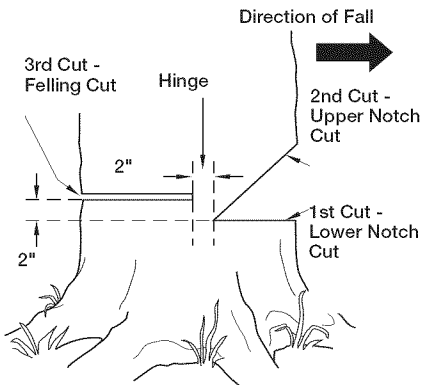

Figure 12 - Felling A Tree
A properly placed felling notch will determine direction tree will fall. Place felling notch on side of tree in direction you want tree to fall (see Figure 12). Follow directions below to create a felling notch.
1. Make lower notch cut as close to ground as possible. Hold saw so guide bar is horizontal. Cut 1/3 the diameter of tree trunk (see Figure 12). Note: Always make this horizontal lower notch cut first. If you make this cut second, tree can pinch chain or guide bar.
Example: If lower notch cut is eight inches deep, start upper notch cut eight inches above it. Cut downward at 45° angle. The upper notch cut should meet end of lower notch cut (see Figure 12).
1. Make felling cut two inches higher than lower notch cut and on opposite side of tree (see Figure 12). Keep felling cut parallel to lower notch cut.
WARNING: Do not cut all the way through tree. Leave about two inches of tree diameter uncut directly behind felling notch (see Figure 12). This uncut portion acts as a hinge. The hinge helps keep tree from twisting and falling in wrong direction.